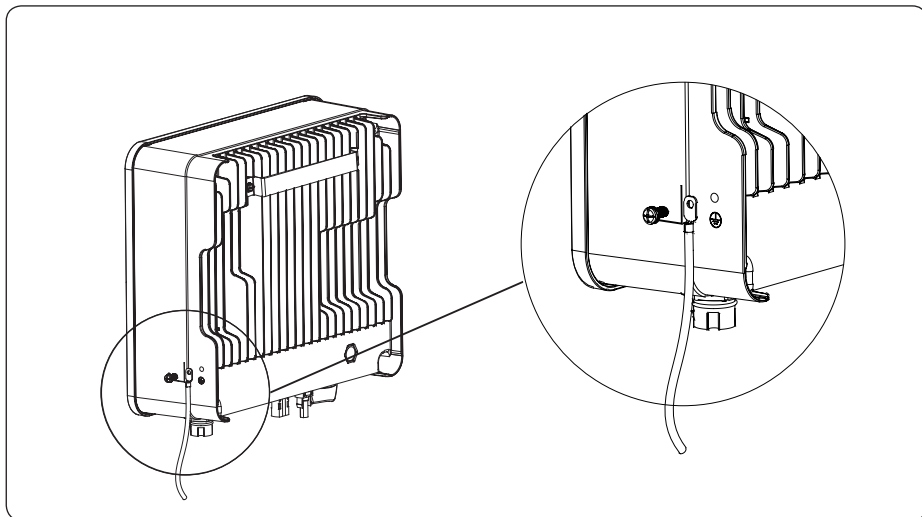

Figure 4-18 Grounding terminal connection
- 2) Fix the grounding terminal to the PE wire with a proper tool and lock the grounding terminal to the grounding hole in the lower right side of the inverter. As shown in Figure 4-18: